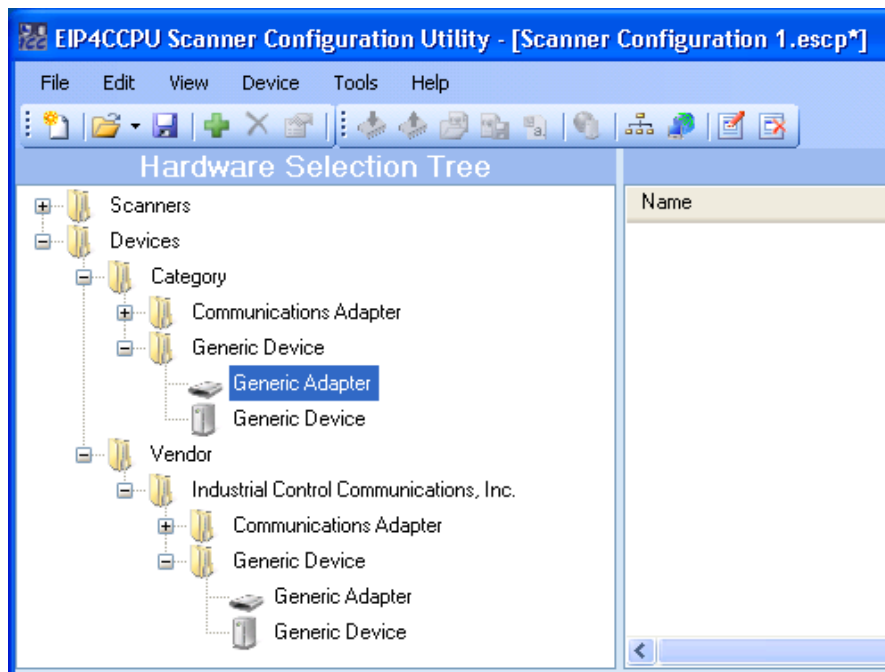
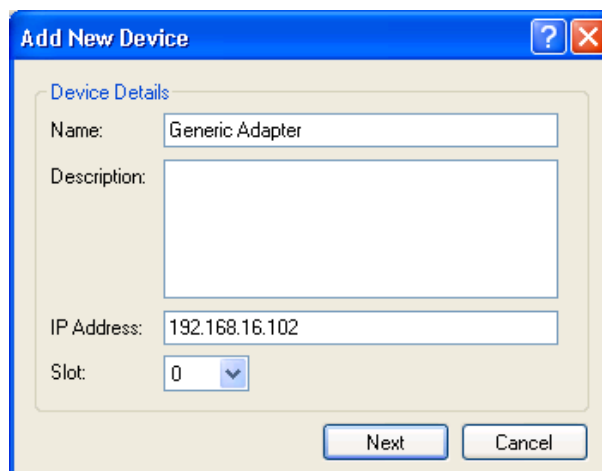

Figure 54: Generic Adapter in Hardware Selection Tree
Figure 55: Adding a Generic Adapter to the Scanner
2. Locate the Generic Adapter in the Hardware Selection Tree (Figure 54) and add the Generic Device to the scanner. Enter an IP address and select the slot and click next (Figure 55).